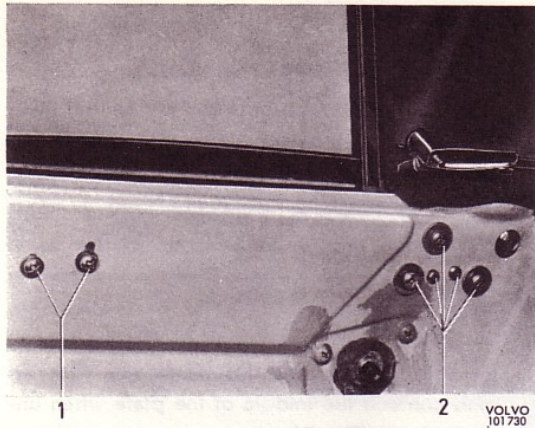

Fig. 19. Attaching screws for ventilation window and winding window stop.
4. Unscrew the screws which hold the frame, see Fig. 19.